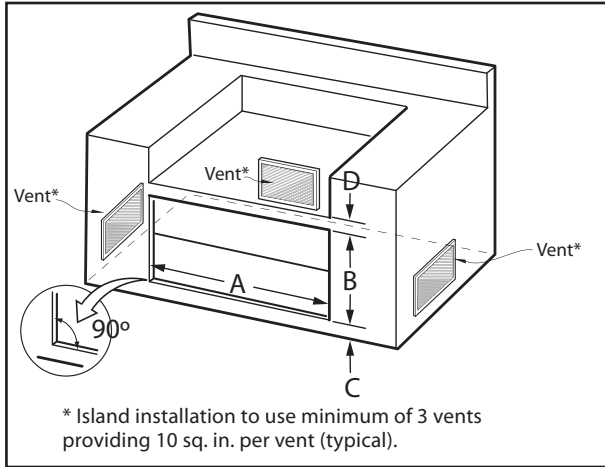

Fig. 3
1. Make a cut-out in your cabinet or island with the following dimensions (Fig. 3):